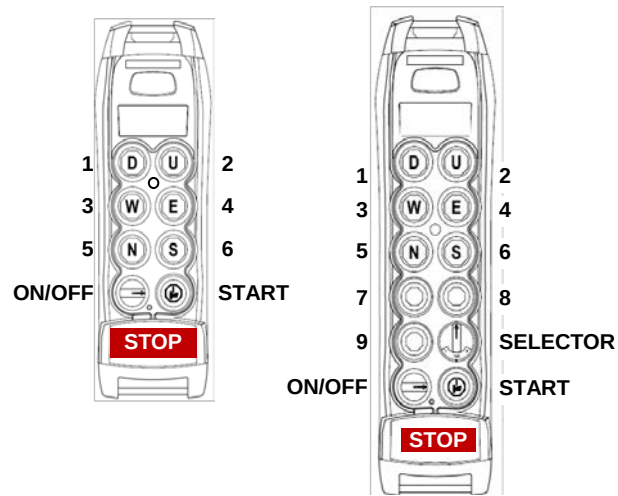

Figure 36. LM70 Transmitters Layout
2. Turn on the transmitter **ON/OFF key** to **ON** and pull the **STOP Button out**. The LED will pulse orange, and then green for 15 seconds. See Figure 36 for transmitter button layouts.
3. To copy the EP70 Memory Module contents into the internal memory of the transmitter, press transmitter **Pushbutton 6** (Figure 36) followed by **START**; keep both buttons **simultaneously pressed** for **five (5) seconds**. The LED will blink orange during the copying process. When the copying process is complete, remove the receiver EP70 module from the transmitter and replace it into the receiver. **Do not turn off the transmitter** or process will have to be restarted.